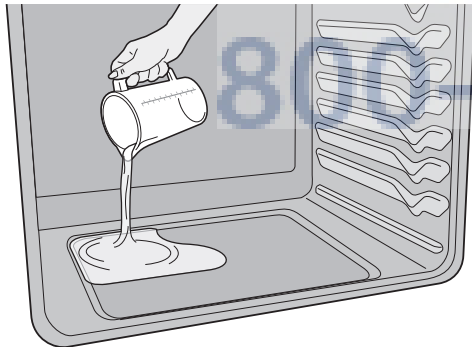

Figure 15: Add 8 ounces of distilled water
3. Pour 8 oz (235 ml) distilled or filtered water onto the oven bottom (See Figure 15). Close the oven door.